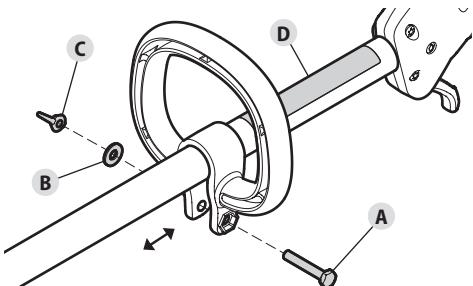

Fig. 9
- Insert the bolt (Fig. 9-A) into the hex bolt hole and push it through. Place the washer (Fig. 9-B) onto the bolt. Screw the wing nut (Fig. 9-C) onto the bolt, but do not tighten the wing nut completely.
- Hold the unit in the operating position (Fig. 16). Move the handle up or down the upper shaft housing to a comfortable location. Make sure the handle is positioned beyond the end of the safety label (Fig. 9-D).
- Loosen the wing nut (Fig. 9-C).